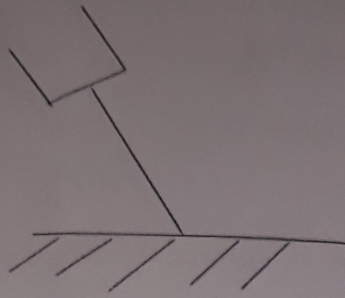

Fig. 2.
06. (a) A single-link robot with a rotary joint as in Fig.2, is motionless at $\Theta=25$ degrees. It is desired to move the joint in a smooth manner to $\Theta=60$ degrees in 5 seconds. Find the coefficients of a cubic trajectory expression that accomplishes this motion and brings the manipulator to rest at the goal. [7 marks] [15]